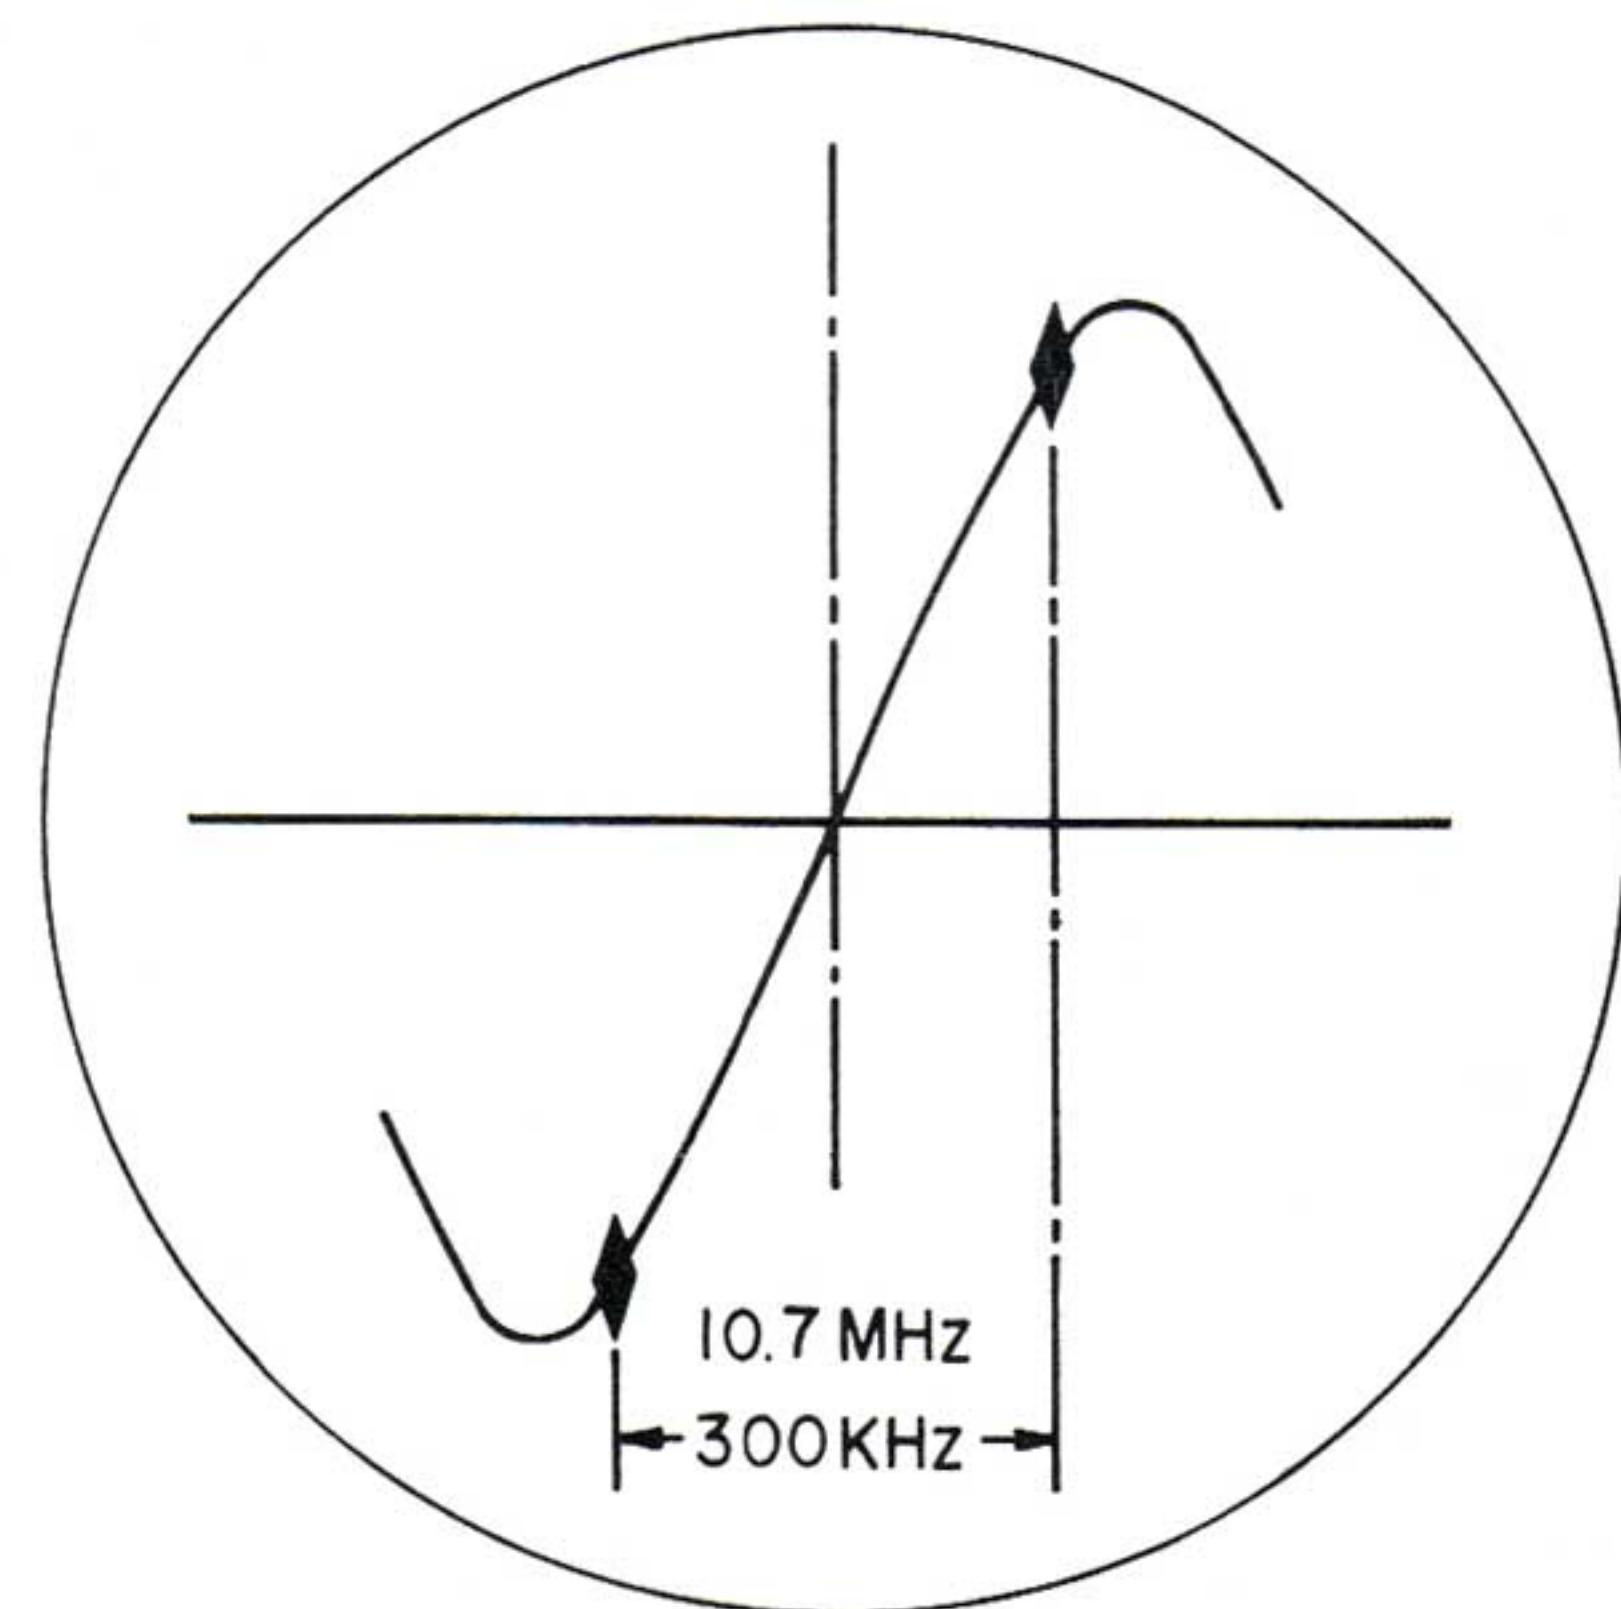

Fig. 3
- Then change the output lead of the Sweep Generator to FM Antenna Terminal ; also the input of the Oscilloscope to test point (Out) and (E) on the IF Board (2007). Adjust the core of L-104 (front end), T-201 (upper and lower) and the upper core of T-204 to obtain the waveform shown in Fig. 3. Adjust to maximum amplitude and proper linearity between \pm 150 KHz markers.